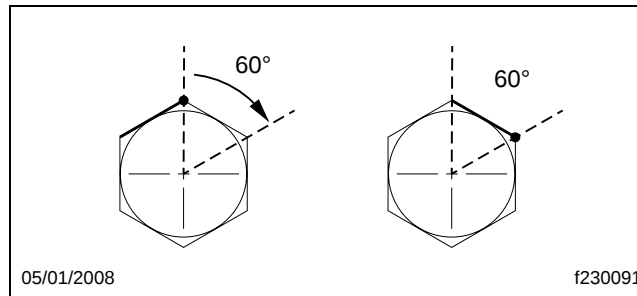

Fig. 7, Turning the Fitting One Flat (60 degrees)
32. Attach the lines to the plumbing adaptors on the steering gear, while ensuring that the lines will not touch the axle or each other once installed. Snug the connection with a wrench to ensure the fittings are seated, which is equivalent to approximately 2 lbf·ft (3 N·m). Then, using a backup wrench to keep the adaptors from turning, tighten the return and supply hoses by 1 flat of the tube nut (60 degrees). See **Fig. 7**.